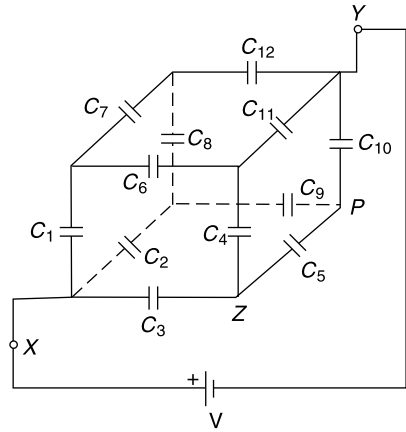

Fig. 2.56 Cube of Ex. 2.50
2.50 In Fig. 2.56, if $C_1 = C_2 = C_3 = C_4 = \dots = C_{12} = 1 \text{ F}$, and $V = 10 \text{ V}$, find the charge supplied by the battery. If the charging current drawn from the battery is 10 A , how much time would the battery take to charge the capacitor cube? What is the energy stored in the capacitances of the cube?